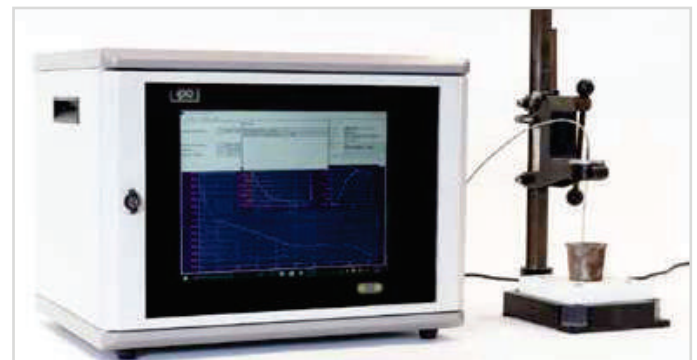

Figure 5: Photograph of a THERMATEST 5000 NG III unit
Thermal Analysis is perhaps the fastest growing method for assessing grain refinement as it is quick and more accurate than elemental spectroscopy. The THERMATEST* 5000 NG III (pictured in Figure 5) is a widely used thermal analysis unit used to quickly and accurately assess grain refinement effectiveness in aluminium alloys. Thermal analysis involves collecting data of temperature versus time of a solidifying melt sample and comparing the curve to a set of known reference curves algorithmically. The THERMATEST 5000 NG III unit's algorithm analyzes the sample curve liquidus and computes a score on a scale from 1-9 for evaluating grain fineness (GF). A score of 1 references a curve that compares with curves exhibiting no grain refining.